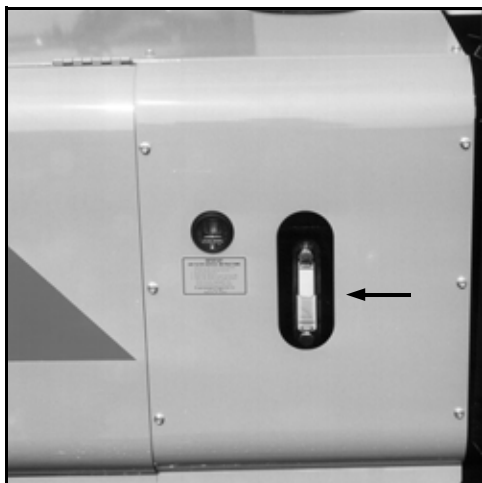

FIG 8.3
OIL LEVEL - Check the hydraulic oil level in the reservoir using the dipstick (fig. 8.2) or the sight gauge on the left-hand side of the tank (fig 8.2, item 1) daily. Add just enough fluid so the level reaches the bottom tip of the dipstick or level is in the center of the sight gauge (fig. 8.3). Always check the hydraulic oil level when it is cool. Hydraulic oil will expand when heated in a system and measuring the reservoir by these levels allows for expansion.